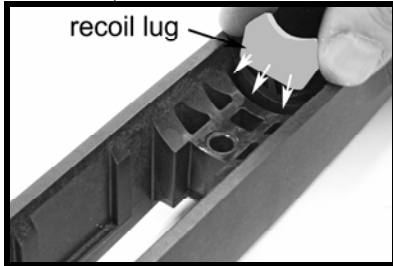
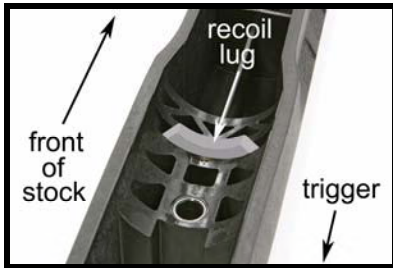

FIGURE 13
FIGURE 14
BE SURE THE RECOIL LUG IS STILL POSITIONED CORRECTLY IN THE STOCK (SEE FIGURE 14). IF THE RECOIL LUG IS MISPLACED OR LOST – DO NOT USE THE FIREARM UNTIL IT HAS BEEN REPLACED (AVAILABLE THROUGH SAVAGE ARMS PARTS DEPARTMENT (SEE SECTION 5).
3. Verify the RECOIL LUG is positioned correctly in the stock channel (see FIGURE 13 and FIGURE 14).